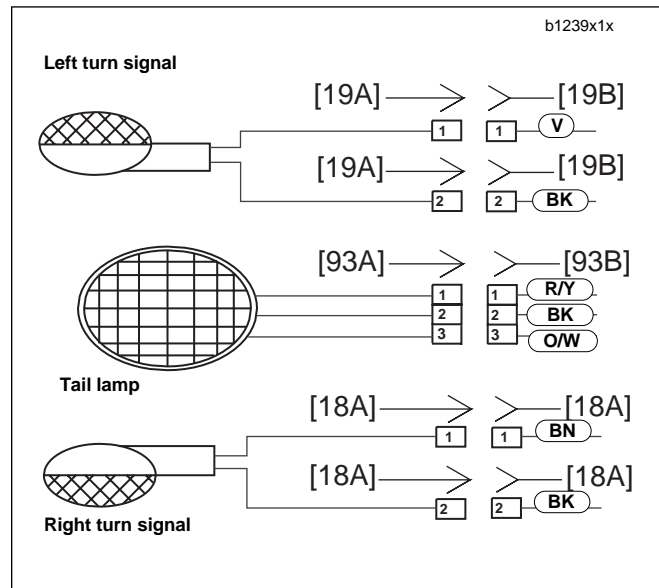

Figure 7-58. Rear Turn Signal Connections
3. Attach bullet connectors on turn signal wires as shown in Figure 7-58.